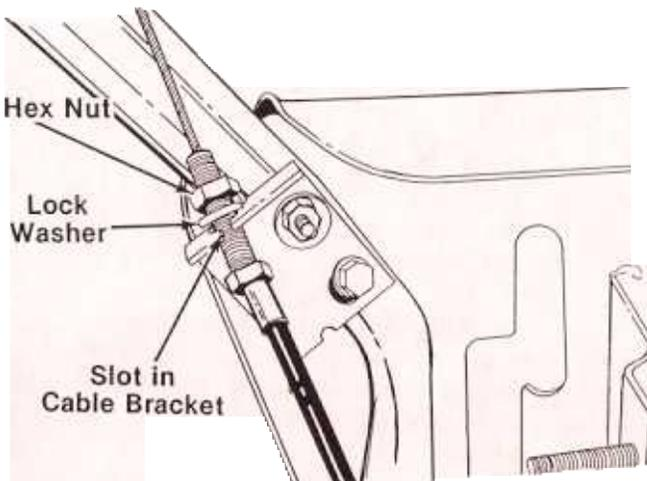

FIGURE 9.
1. Remove one nut and the lock washer from the end of the tine clutch cable (short cable). Slip the cable up through the slot on the cable bracket on the left handle. Rethread hex nut and lock washer on the end of the cable. See — figure 9. Do not tighten at this time.